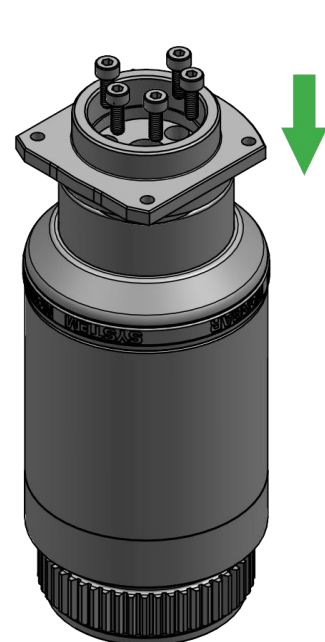

FIGURE 3 – Attaching Gearbox Index Plate
2. Place the gearbox index plate over the top of the gearbox ensuring the 5 holes align correctly. See figure 3.
3. Fasten the gearbox index plate to the gearbox using 5 of the SHCS M4 x 12 – 12.9 screws and torque tighten to 4.2 N·m. See figure 3.